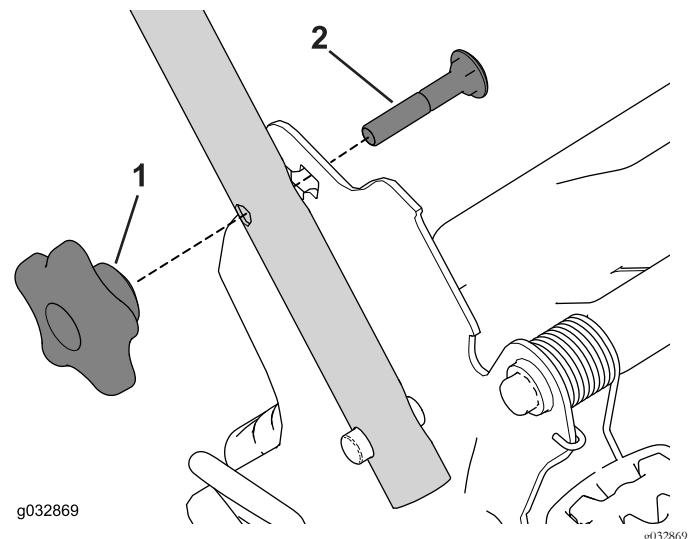

Figure 29
1. Remove and save the 2 handle knobs and 2 carriage bolts from the handle brackets (Figure 29).